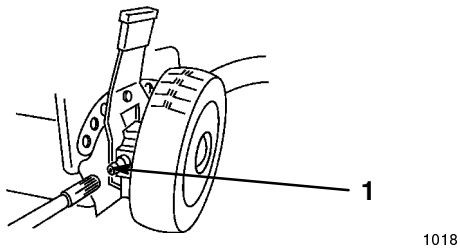

Figure 24
1. Wipe the grease fittings on the rear wheel height adjustment levers (Fig. 24) with a clean rag.